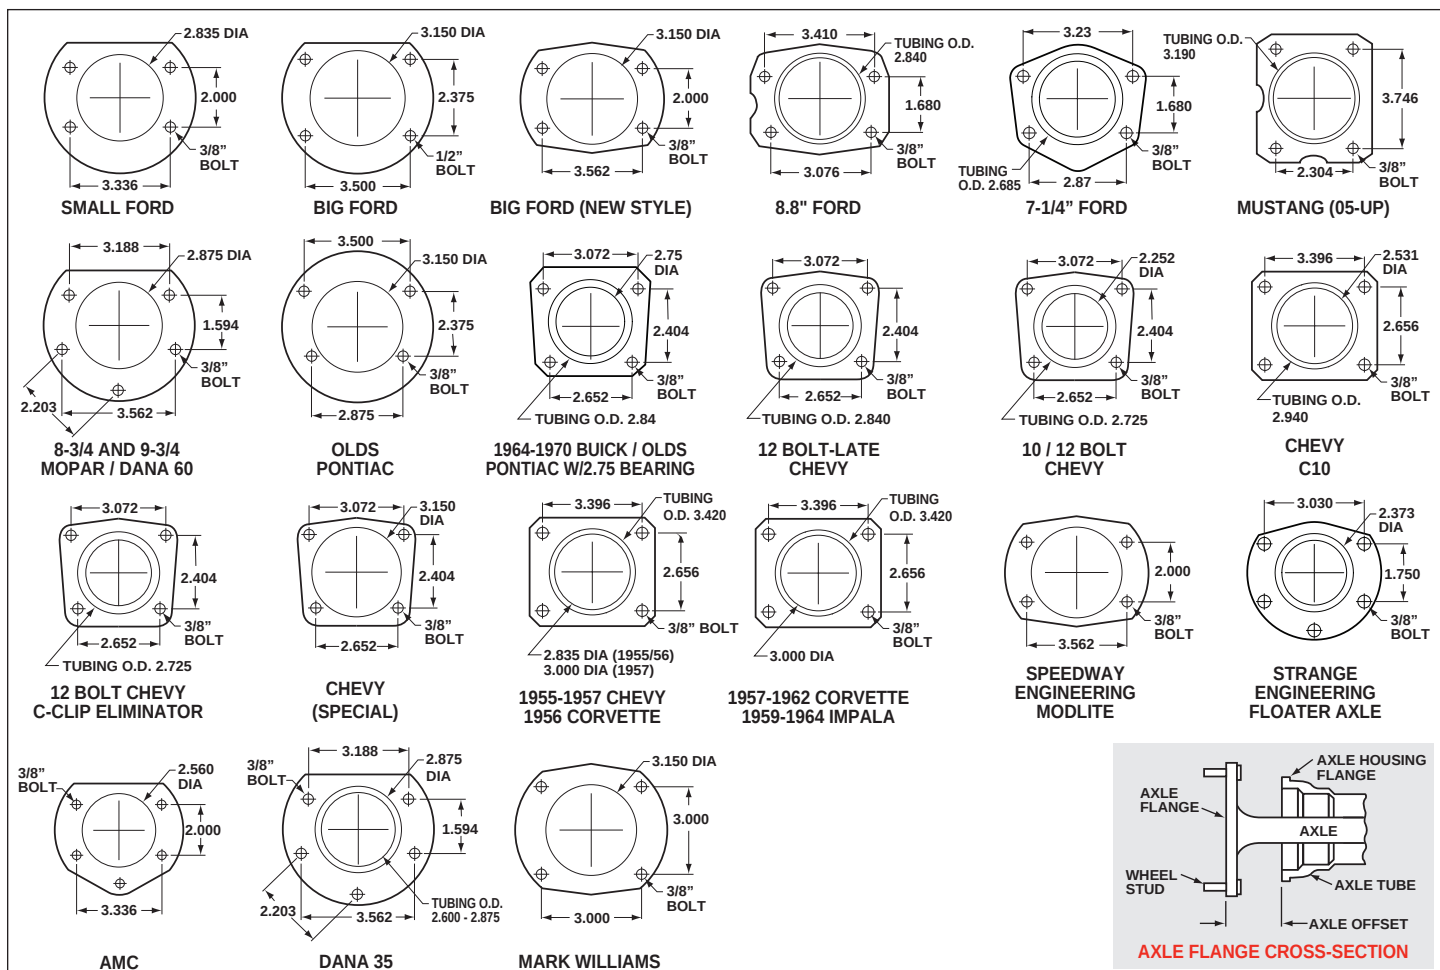

Figure 4. Rear Housing Flange Chart and Axle Flange / Offset Cross-Section
• Make sure this is the correct kit to fit the axle housing flange, not necessarily the rear end make. Many times aftermarket manufacturers put a different make of axle housing flange on the stock rear end housing (Figure 4). Example; Big Ford rear ends with Olds-Pontiac flanges, therefore, an Olds-Pontiac rear disc brake kit would be the correct kit to order. Also, shock clearance may be a problem. They may have to be modified and/or relocated to clear the Wilwood kit after final assembly.
- Dimension from wheel side of axle flange to wheel side of axle housing flange (see Figure 4, lower right hand corner). This dimension is critical to ensure proper alignment of the rotor to the caliper, and should match offset given in the kit description.